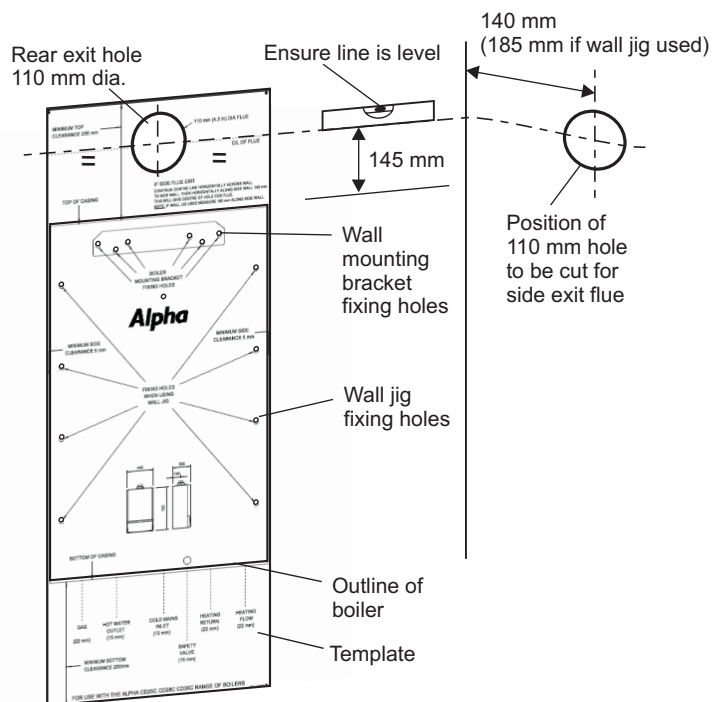

Fig. 11
4.3 PREPARE THE WALL - Fig. 11
4.4 FIT THE BOILER - Refer to Figs. 11 and 12